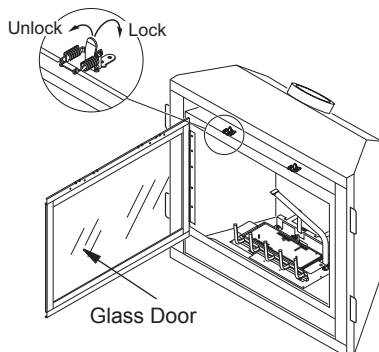

Figure 26 - Opening Glass Door
3. Undo latches located on top and bottom of firebox (see Figure 26). Carefully swing door to the left. Glass door is securely mounted to firebox with 5 screws.